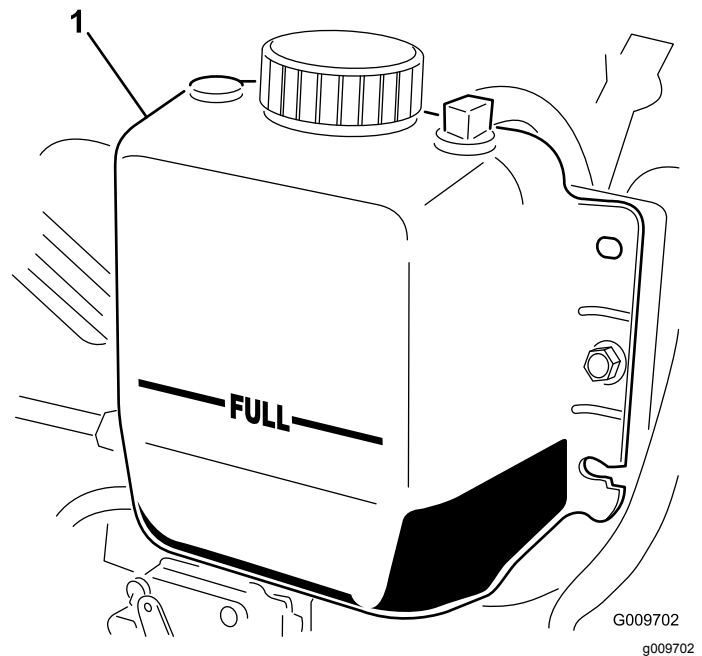

Figure 89
3. Check the coolant level in the radiator. The radiator should be filled to the top of the filler neck and the expansion tank filled to the FULL mark (Figure 89).